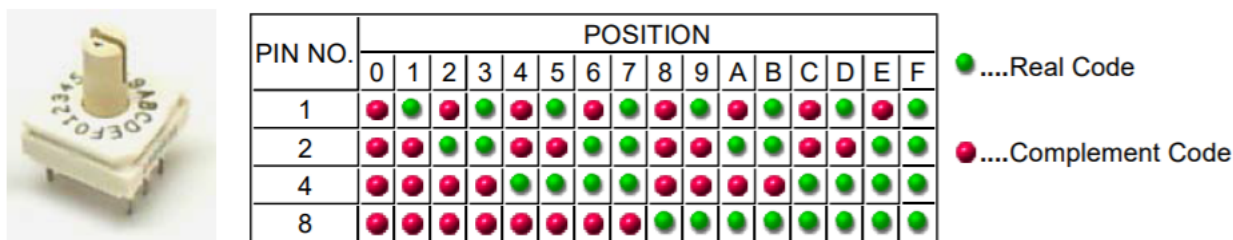

Figure 2 Rotary type DIP-Sitch with hexadecimal position code (not included in the Breadboard Pack)
- 2N-position rotary switch bundles N SPST switches into a single component; rotating the dial create a binary sequence of open-closed switch states. (figure 2, this switch is not included in the TI-Innovator Breadboard Kit).